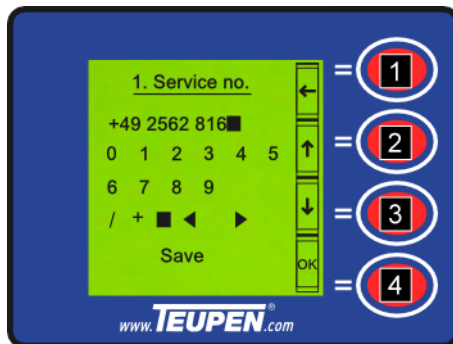

Fig. 73: Service telephone number input
1. Use the [function keys] (Fig. 73/2 and 3) to select the desired digit or special character.
2. Use the [function key] (Fig. 73/4) to confirm the selection.